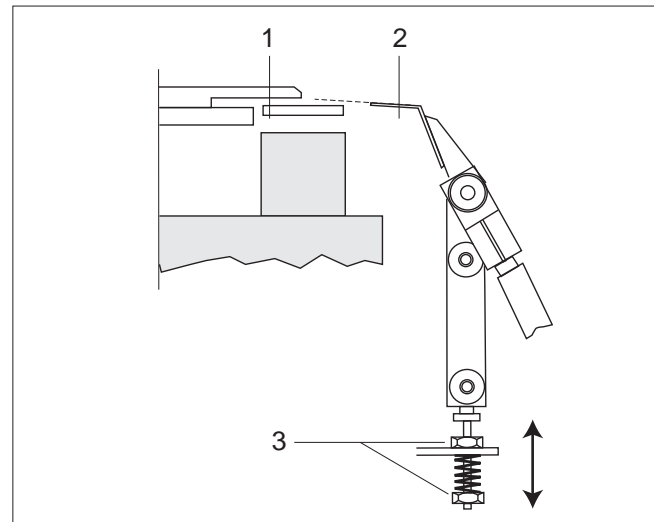

Fig. 13
- With a long hexagon-socket screw wrench (placed through hole in side wall) turn coupling in direction of arrow, until the heating element has reached the position shown in Fig. 13.